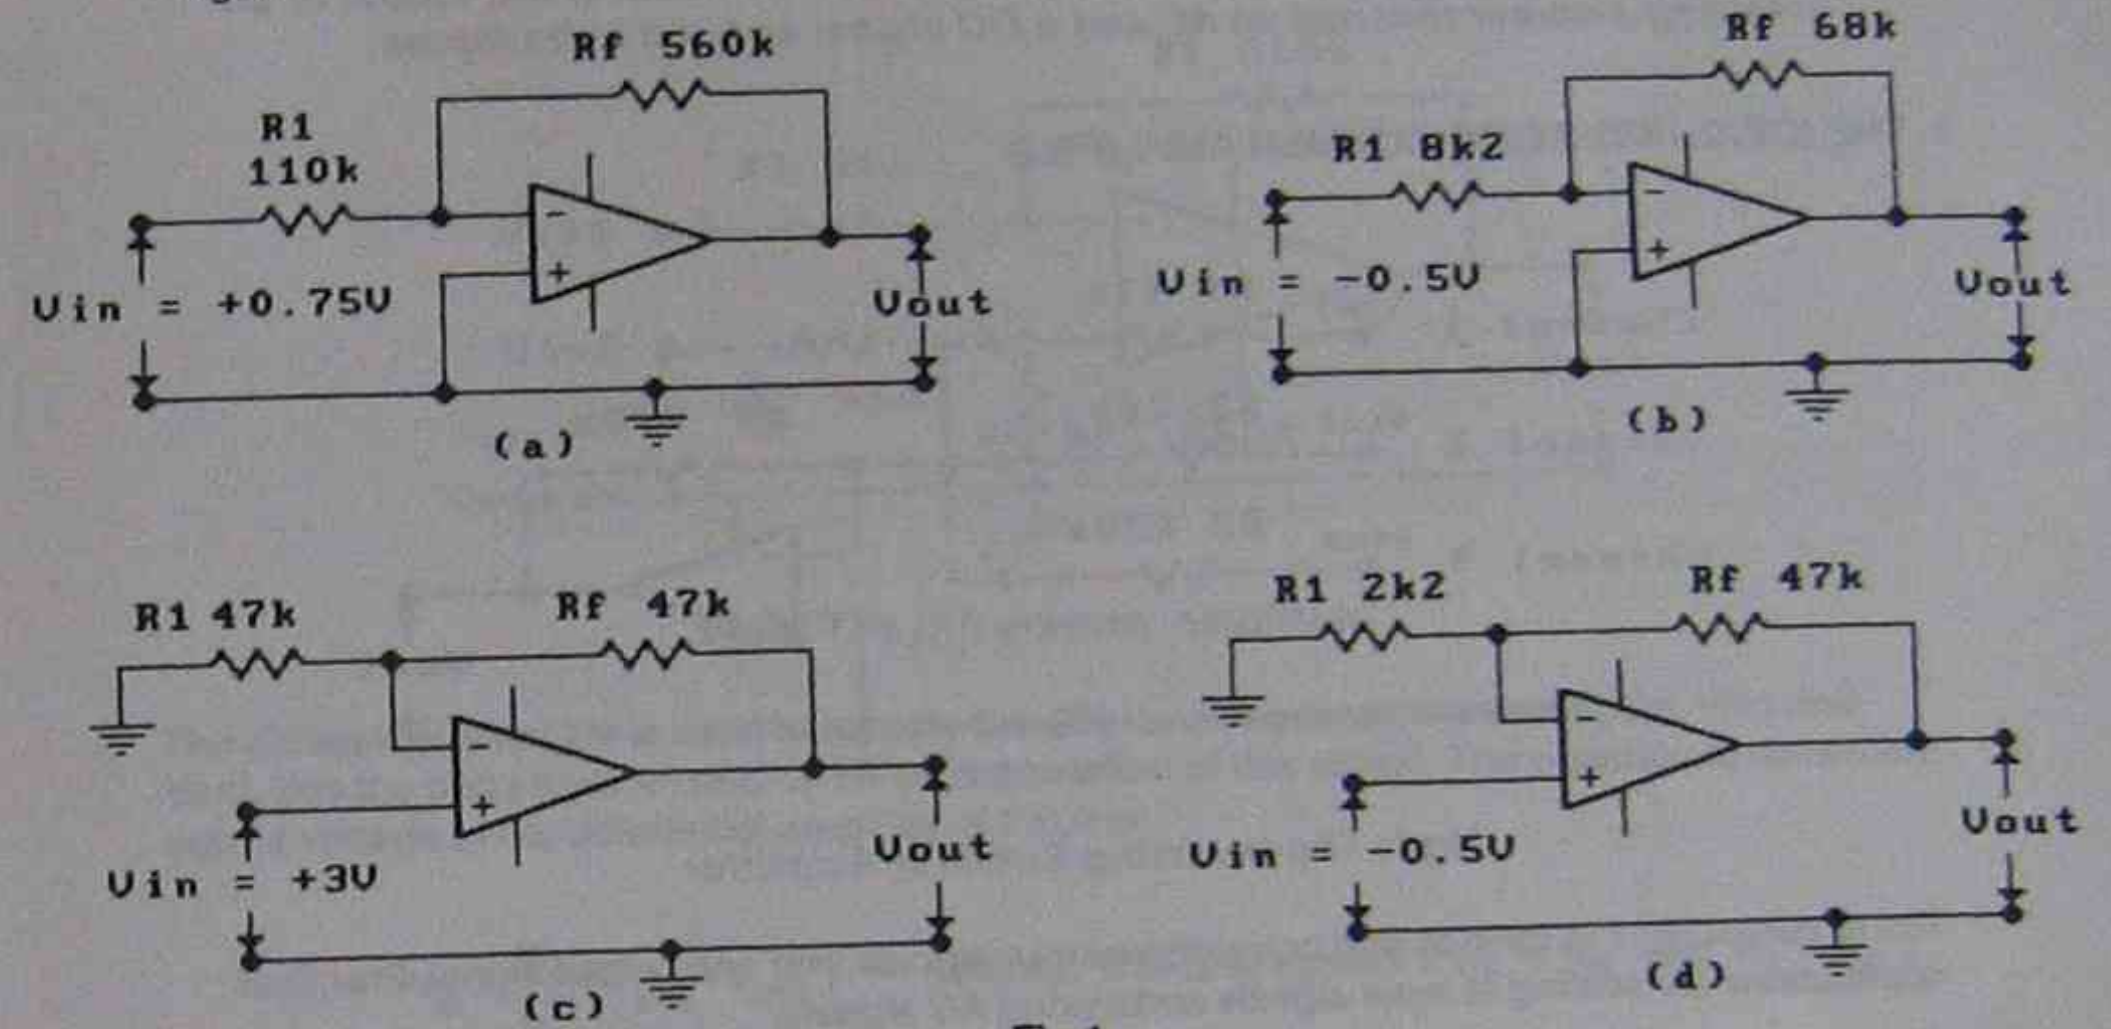

Fig. 1.
2. Assuming ideal op amps, determine the voltage gain and output voltage for each circuit of Fig. 1.